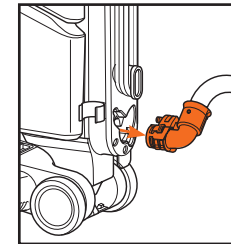

fig. 8
4. Detach the hose by squeezing the fitment clips on the hose attachment. (**fig. 8**).